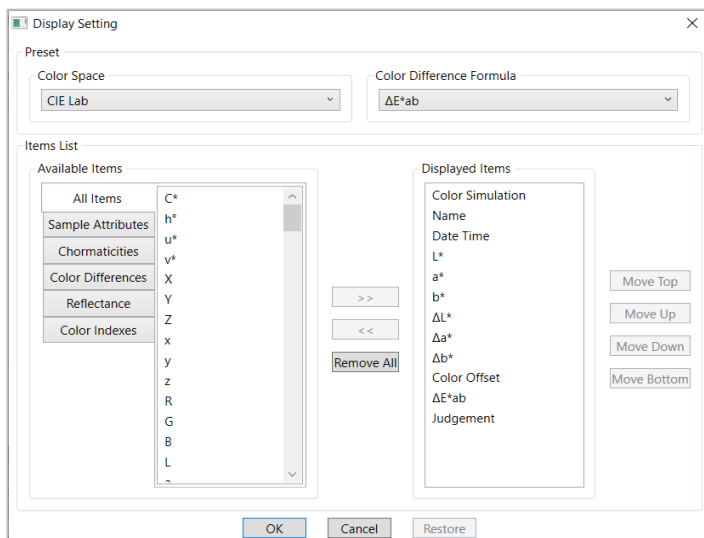

Figure 31: Display setting window
2. The Display Setting window will load (Figure 31) listing the available fields on the left. The right lists the data items in the current display. Select the desired item from the list on the left and click “>>” to move it to the display data items. Clicking the “<<” button moves it back to Available Items.
Note: The “Remove All” button in Figure 31 will clear all display items and the “Restore” button will take you back to the default settings.